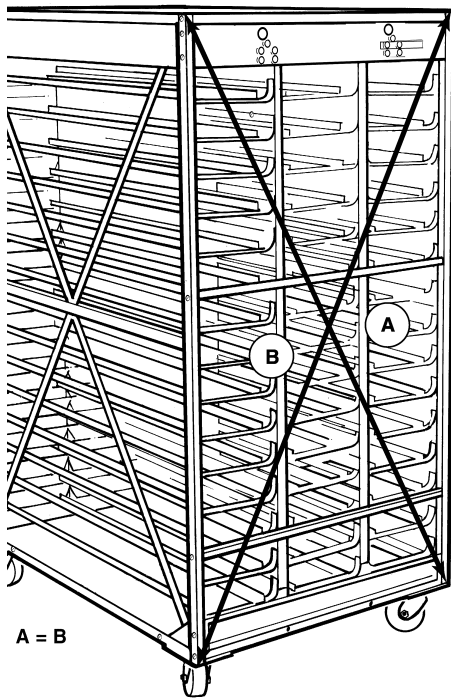

Figure 26
**Step 19:** Check for squareness using either the front or the back of the incubator rack as in Figure 26.